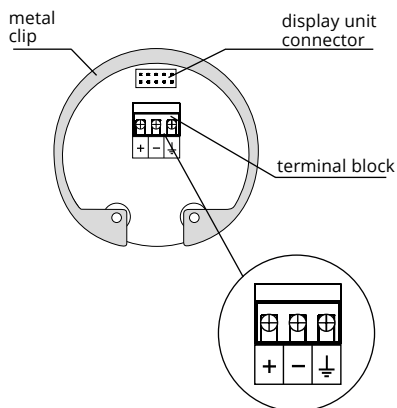

Fig. 14: Inside view of screw terminals of the level meter with current output ARLM-70 _ _ _ I
5. Connect the cable to the screw terminals according to the diagram in Fig. 14. Firmly tighten the terminals and the cable outlet.